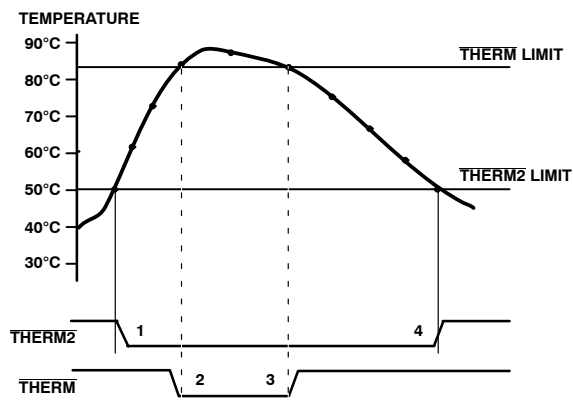

**Figure 19. Operation of the  $\overline{\text{ALERT}}$  and  $\overline{\text{THERM}}$  Interrupts**
Figure 19 shows how the  $\overline{\text{THERM}}$  and  $\overline{\text{ALERT}}$  outputs operate. A user may wish to use the  $\overline{\text{ALERT}}$  output as a  $\overline{\text{SMBALERT}}$  to signal to the host via the SMBus that the temperature has risen. The user could use the  $\overline{\text{THERM}}$  output to turn on a fan to cool the system, if the temperature continues to increase. This method would ensure that there is a fail-safe mechanism to cool the system, without the need for host intervention.
- The  $\overline{\text{THERM}}$  output de-asserts (goes high) when the temperature falls to  $\overline{\text{THERM}}$  limit minus hysteresis. In Figure 19, the default hysteresis value of  $10^{\circ}\text{C}$  is shown.